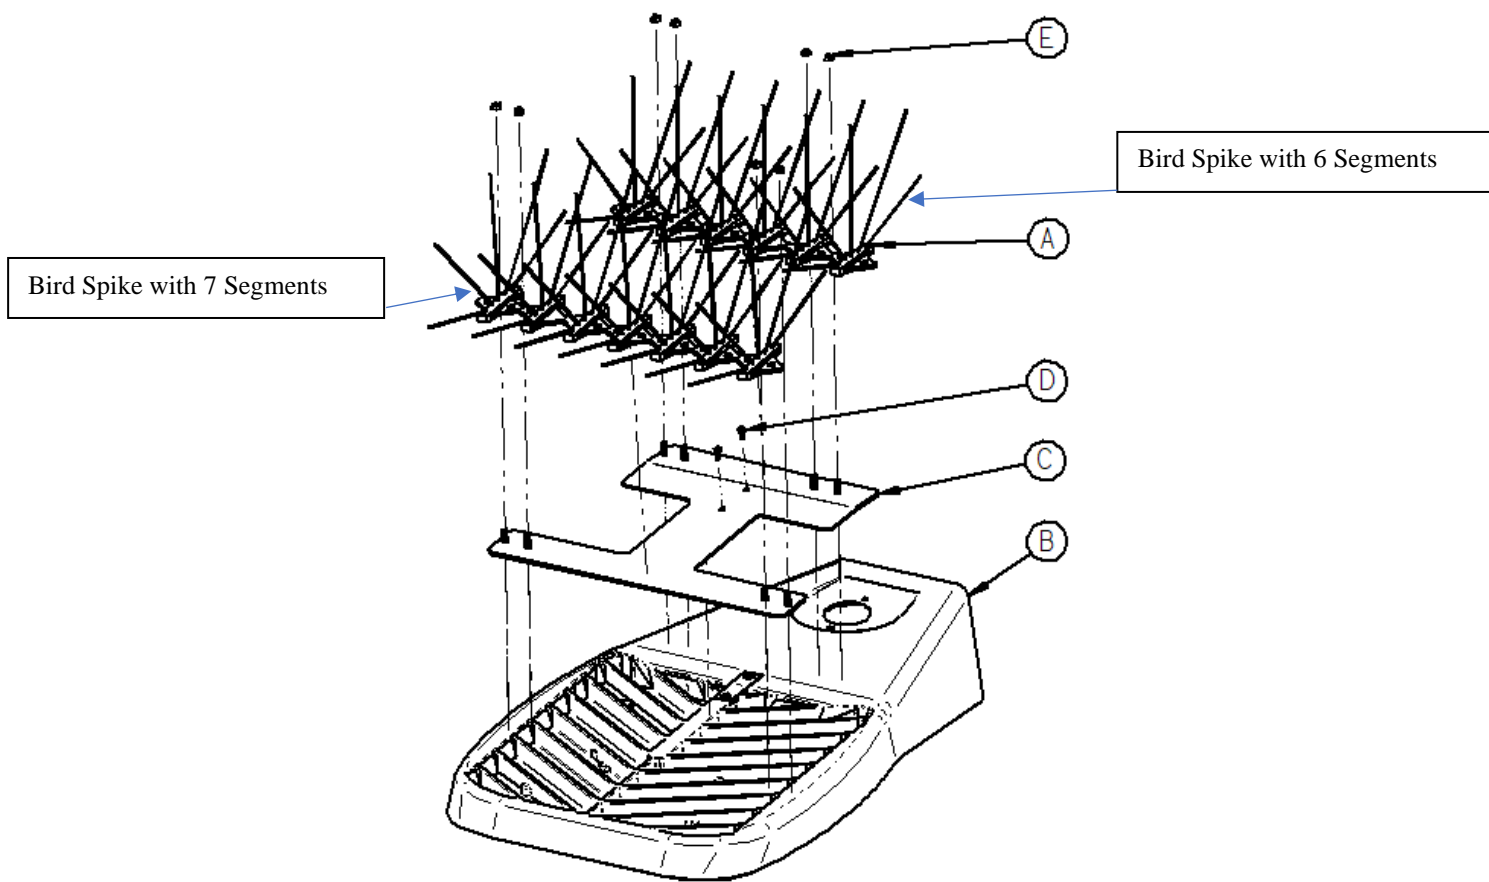

Figure 1 Bird Spike Assembly
2. Remove and discard the existing two screws that are in the center of the Fixture (B). Align the Bracket (C) with the Fixture (B) such that the Screws (D) align with the existing screw holes in the Fixture (C). Use the provided Screws (D) to fasten the Bracket (C) down. Ensure that the PEMs are facing upwards as shown in Figure 1.
3. Place the Bird Spikes (A) onto the fixture, ensure that they are in the correct position. Then use the provided Locknuts (E) to fasten the Bird Spikes (A) down.
4. Inspect the fixture to make sure that both screws (D) and locknuts (E) are fully tightened, and the bird spikes Bracket (C) is rigid.